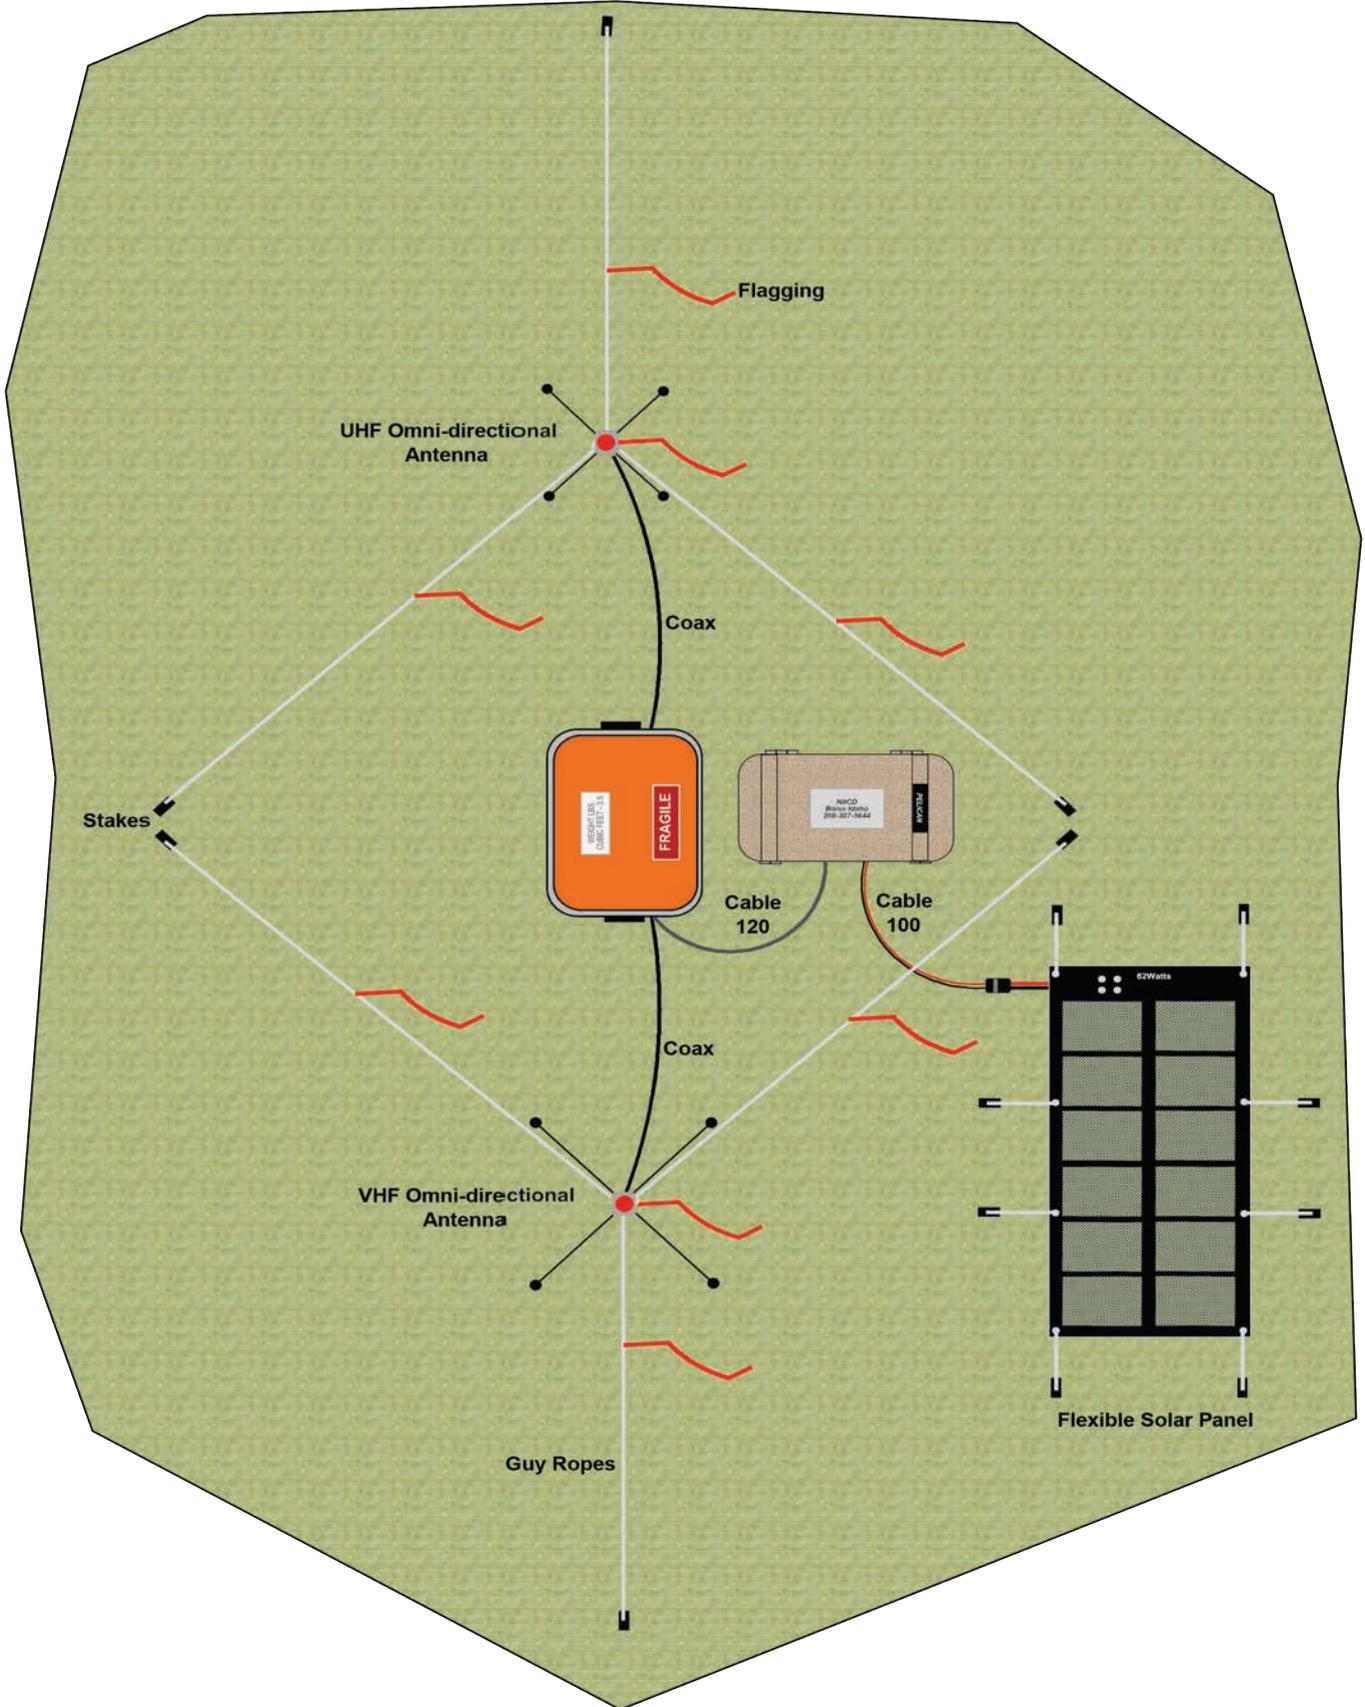

Figure 1: Flexible Solar Panel Installation (Overhead View)
4. Connect the components as shown on the cable block diagram. **(See Figure 1)**